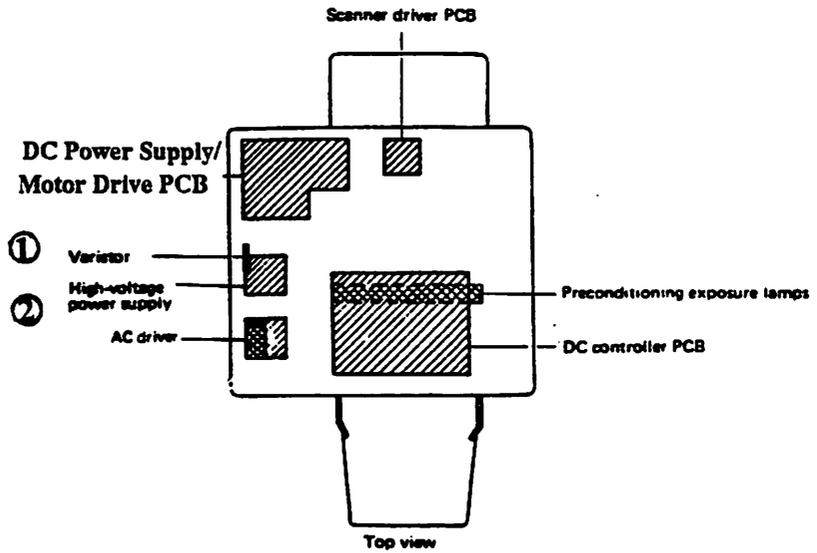

Figure 2-16
- a) Remove the three connectors from the Varistor PCB (see Figure 2-16, #1).